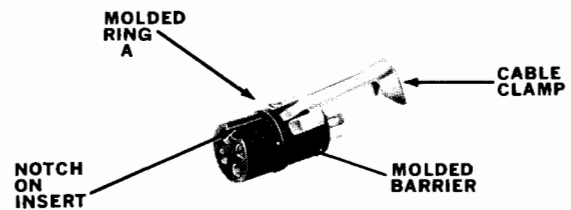

Fig. 1
5. Install cable clamp by positioning insert as shown. Hold clamp at approximately 30° angle (Fig. 1) and insert tip of clamp center finger into slot under molded ring A.